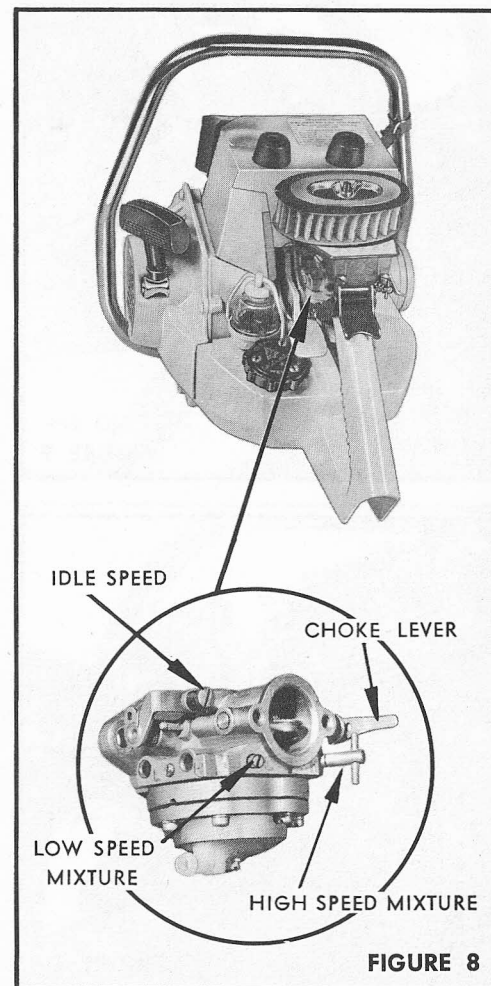

FIGURE 8
1. Idle speed adjusting screw controls the idling speed only (figure 8). To adjust, back the screw off approximately two turns, then turn slowly to the right until the throttle arm just starts to move, then give an additional 1-1/2 turns to the right.
2. High speed adjusting screw controls fuel mixture when the throttle is open (figure 8). To adjust, shut off gently, then open 1-1/4 turns. This may vary slightly for individual chain saws under full load.
3. Slow speed adjusting screw controls the fuel mixture at idling speeds (figure 8). To adjust, shut off gently, then open 3/4 to one full turn. This may change slightly according to the individual chain saw and operator.